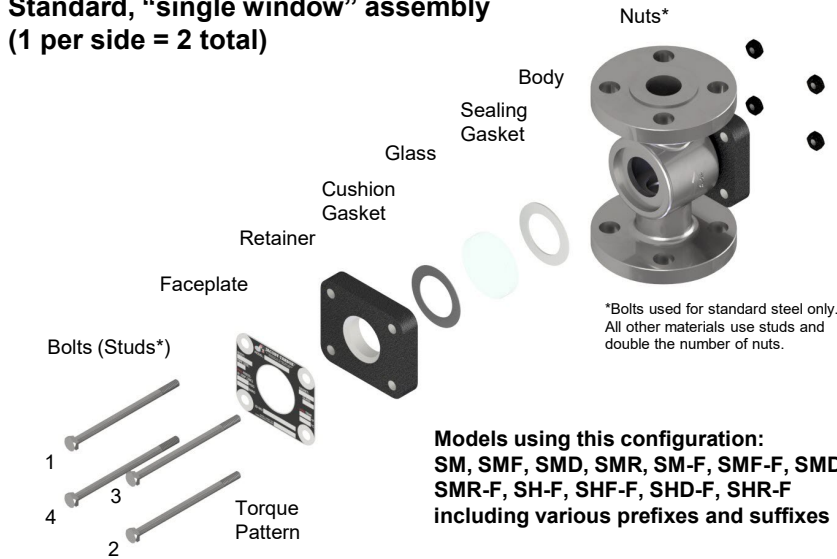

Figure 1: Marking
- Tempered borosilicate glass is marked on the edge (perimeter) with a black dot (•) or a "T". Annealed borosilicate is unmarked. The nameplate indicates "T boro" or "A boro." (Figure 1) UniGlas, glass with a metal ring in one piece, has the ring material stamped in the OD.